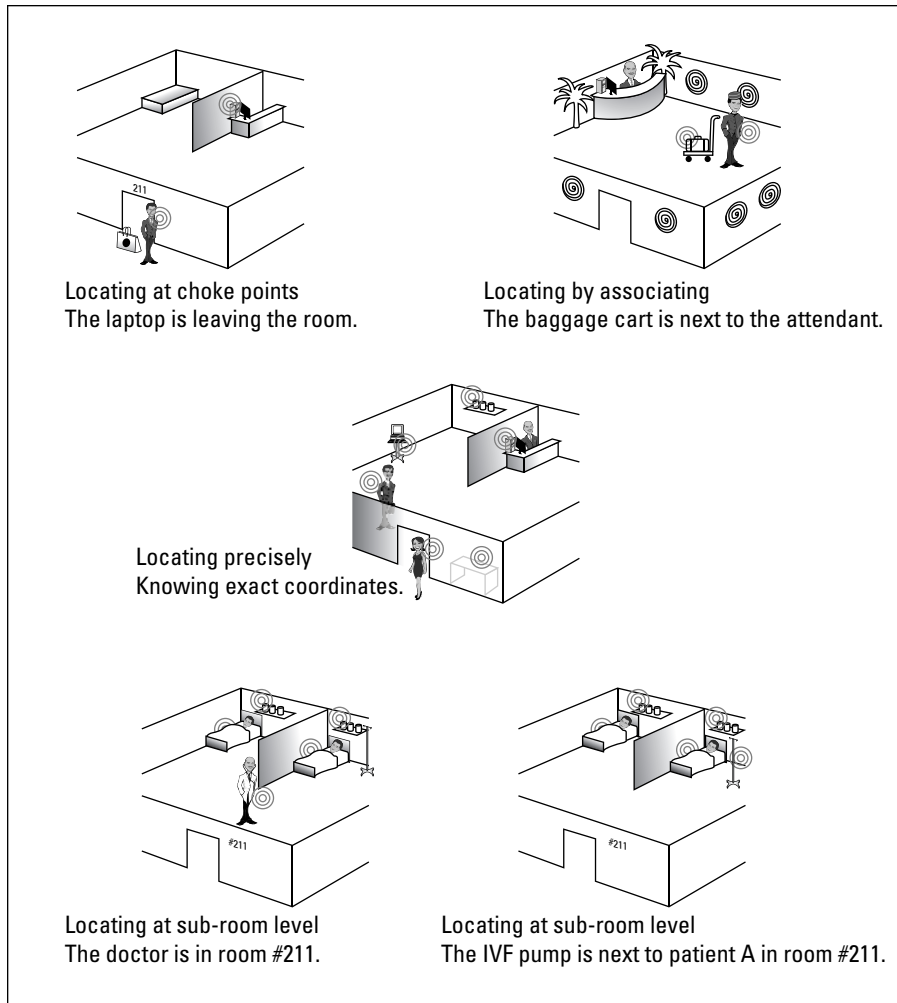

Figure 1-2:
To satisfy the needs of various applications, whether they need precise location or room-level location, various RTLS systems report the location of tags in one of the following ways (see Figure 1-2):
- ✓ **Locating at choke points:** In this model, as shown in Figure 1-2, the tag location is returned by a specific *choke point* (an entry or exit point, such as a door; it's assumed that people or assets move from one area to another through these choke points). By monitoring the time a tag was seen at a specific choke point, you can also determine the direction the tag is moving. In other words, you can determine whether the tag is present inside or outside an area and whether it's entering or leaving the predetermined area. For example, if all visitors to a facility are required to carry tags, you can determine on which floor or building the visitors are located.
- Locating by associating:** In this model, tag location is returned as proximity with respect to another tag (see Figure 1-2). For example, if each patient in a clinic wears a tag and each IVF pump has a tag, the location of the IVF pump is returned as present next to a specific patient. The billing department can use this data, which indicates how long the IVF pump was in use with any patient, to calculate invoice amounts. Or maybe you need to know whether the owner of a specific laptop is actually next to that laptop. Many securities, financial, or other location-based services can benefit by knowing this type of information.